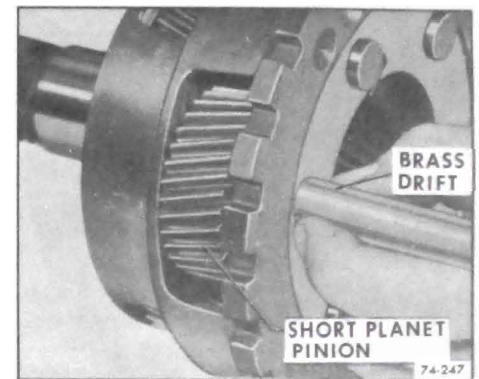

Figure 74-247
3. Start with a short planet pinion first. Insert Brass Drift into front of carrier. See Figure 74-247.